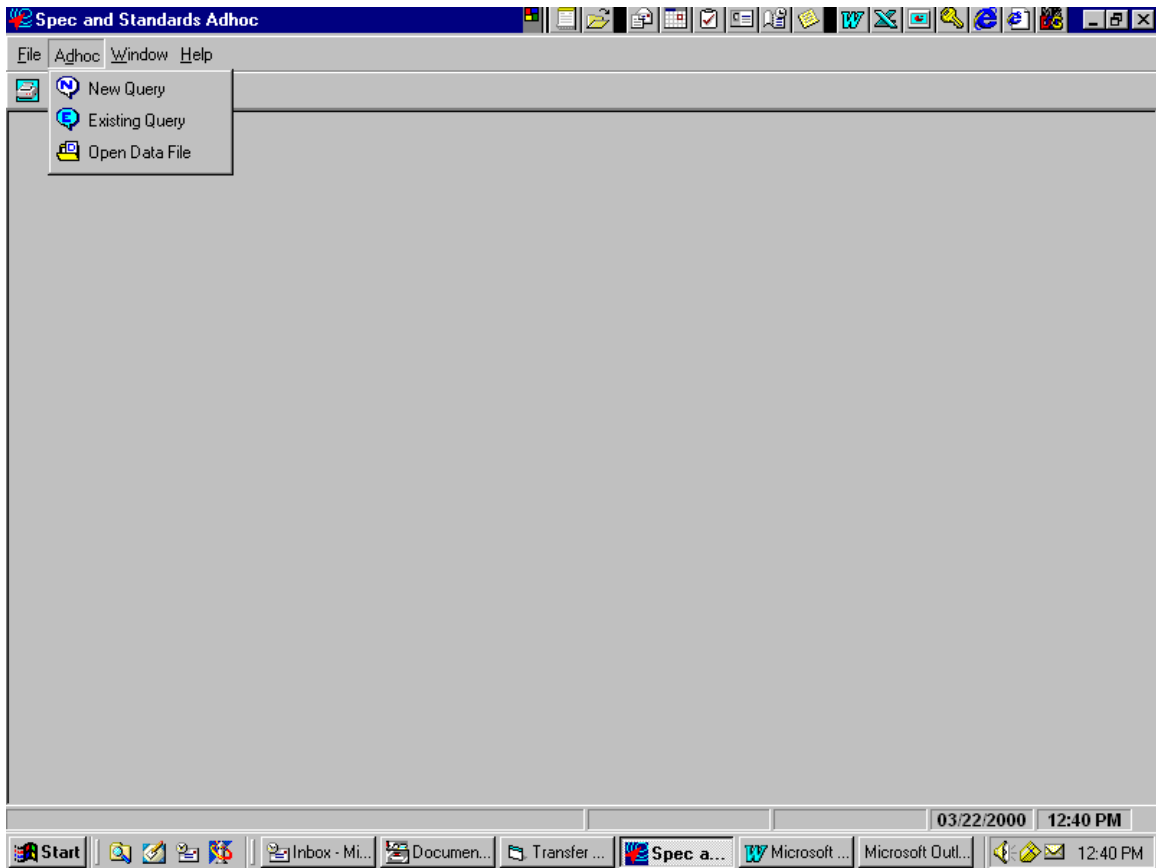

Figure 6.3b
c. To access an Adhoc Query, select Adhoc from the toolbar with the mouse, clicking once to display the drop-down menu and selecting from the New Query, Existing Query, or Open Data File options. Another option would be to select from one of the icons on the toolbar that corresponds with the action you want to perform (see Figure 6.3b).